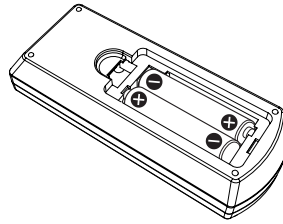

Fig. 2
- 2) Insert batteries and close the cover. (Insert the  side first.) (Fig. 2)